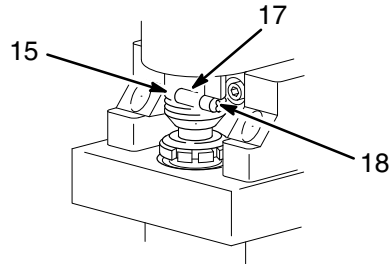

Fig. 19
2. Try to stop the pump with the piston rod (107) in its lowest position. To lower the piston rod manually, rotate the motor fan blades. Use a screwdriver to push the retaining spring (18) up and push out the pin (17). See Fig. 19.